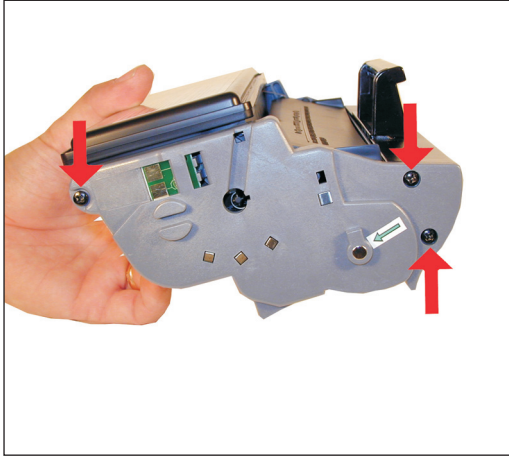

Figure 2
1) On the left side of the cartridge (Chip Side) remove the 3 screws. See Figure 2